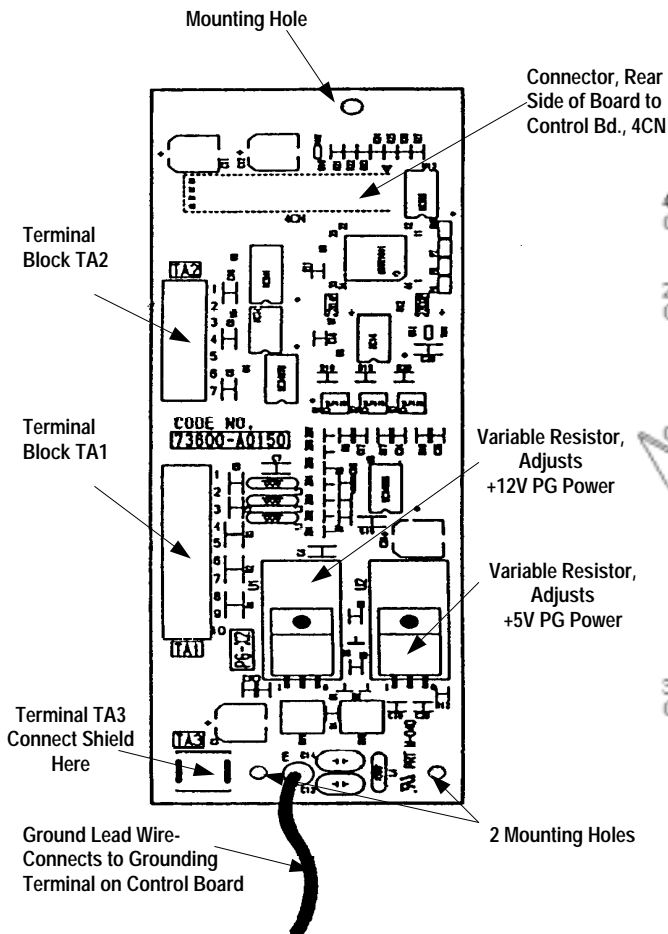

Figure 1. PG-X2 Encoder Feedback Card
3. **Introduction:** The PG-X2 encoder feedback option card (Figure 1) is mounted on the drive's Control Board and performs speed feedback using the pulse generator (PG) on the motor to correct speed fluctuation caused by motor slip. Motor rotation direction is detected by phase A and phase B PG pulse inputs. The terms encoder, PG (pulse generator), and pulse train are used interchangeably in this guide. The card can be used for flux vector control or V/Hz with PG feedback control.